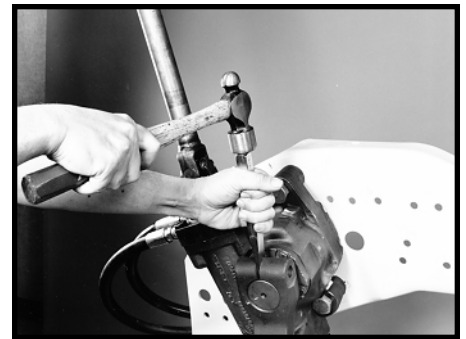

Figure 5
- 1.1 If a leak is detected in the trunnion cover area on many HFB70 installations, you can remove the trunnion cover to gain access to the sector shaft seal package while the steering gear is on the vehicle. First remove the pitman arm nut and bolt and then the pitman arm from the sector shaft (48). SEE FIGURES 5 & 6. Check the radial position of the pitman arm to the sector shaft prior to removal of pitman arm. Add timing marks to the arm and shaft if necessary to insure correct alignment at reassembly.